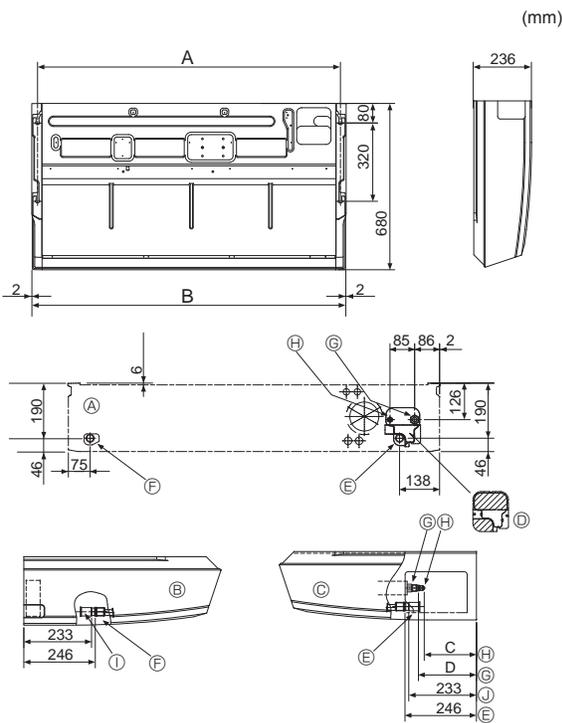

Fig. 3-2
①	Washer	4 pcs
②	Pipe cover	1 pc Large size (For gas tubing)
③	Pipe cover	1 pc Small size (For liquid tubing)
④	Band	4 pcs
⑤	Joint socket	1 pc Marked with "UNIT"
⑥	Socket cover	1 pc
⑦	Drain tubing cover	1 pc
⑧	Flare nut	1 pc $\phi 6.35$ (M60 only)
3.2. Preparation for installation (Fig. 3-2)